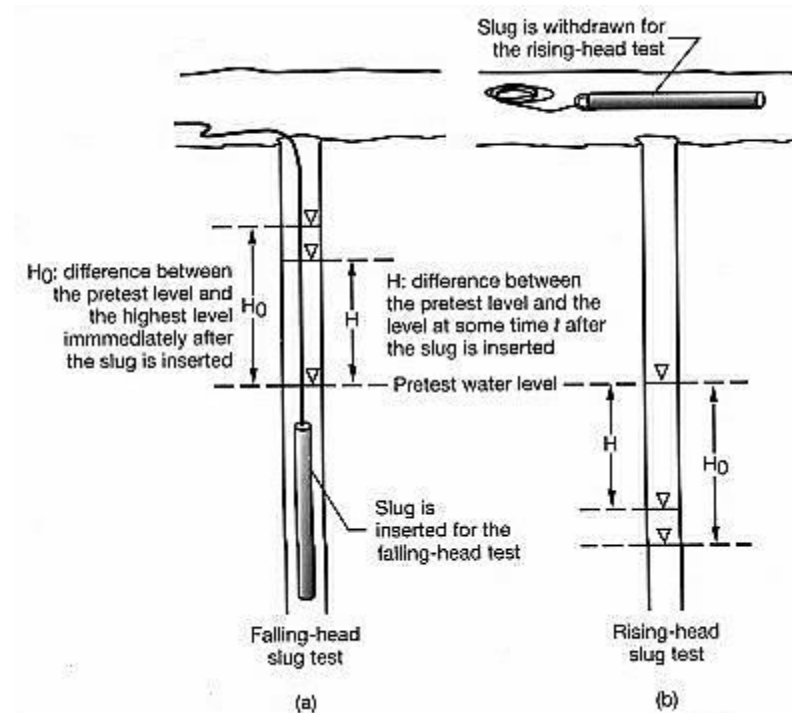

Figure 5.6: Cartoon of slug test geometry. We will use the rising head method (b), after Fig. 5.1, Sanders \(1998\).
1. Measure the "static" depth to water from your benchmark, before any water is removed from the well (Fig. 5.6)